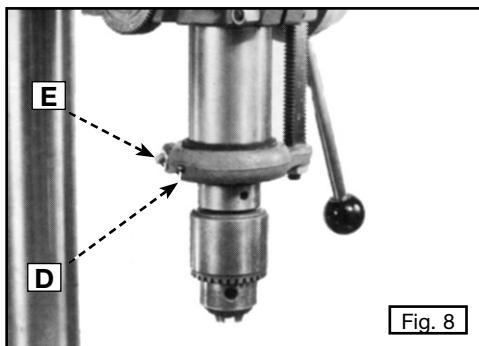
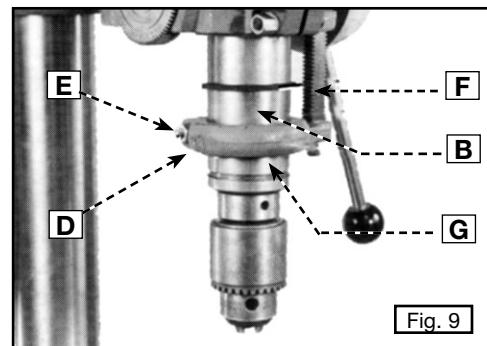

Fig. 8
Fig. 9
2. Loosen the set screw (D) Fig. 8 and the hex nut (E).
3. Slide the rubber ring (F) Fig. 9 up on the quill and raise the stop collar (G) approximately 7/8". Tighten the set screw (D) Fig. 8 and the hex nut (E) just enough to hold the stop collar (G) in position.